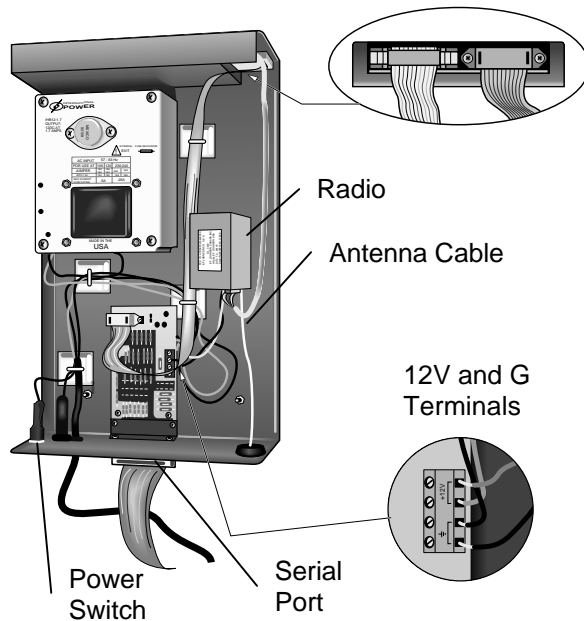

FIGURE 3.3-6. RF232 Base Station Installation
2. With the power cord disconnected, remove the four screws that attach the RF232 lid. Remove the lid, and install the RF200 transceiver as shown in Figure 3.3-6. Connect the red wire to the "12 V" terminal, and the black wire to the "GND" terminal inside the RF232. Connect the multi-colored ribbon cable to the RF modem; make sure that the keyway is properly aligned.